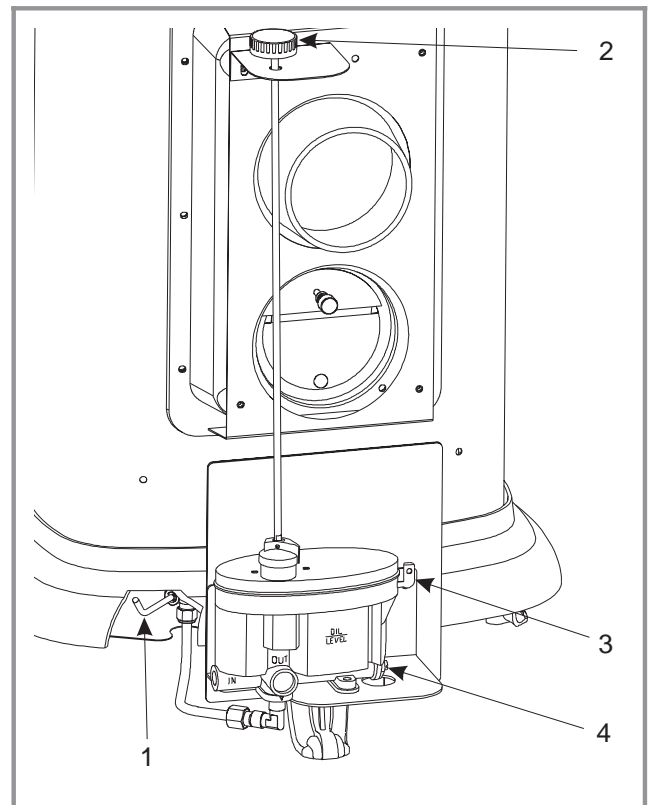

Figure 8 - Operating devices
- **Every week :** operate the de scaling lever (# 3 of fig. 8) :
- remove the filter cover plate located under the regulator (# 4 of fig. 8) with a screwdriver,